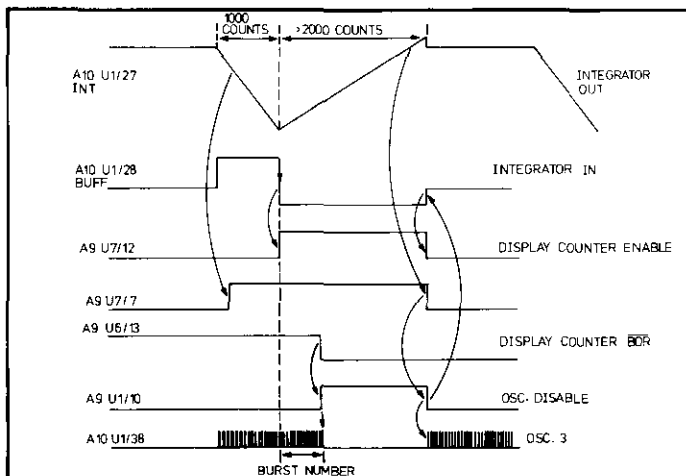

Figure 8–6–3. Burst No. Display Timing Diagram
The One Detector circuit output, U22C pin 8, is changed from its normal high to a low level when the stored burst count reaches one (001). Until this point, U22C pin 8 at high has maintain the BURST ON/OFF signal at high (Burst on). At the receipt of the next clock pulse, which initiales the last burst cycle, the level at U22C 'D' is transferred to the Q output so disabling burst via the VCO BURST ON input. This is illustrated by Figure 8–6–2.
The timing diagram, Figure 8–6–3 should be referred to when reading the following explanation. The principle of operation is that the DVM IC integrator is first supplied with a fixed input (2.2 V) voltage to enable it to ramp up in the normal manner for 1000 cycles time period. The discharge phase is now started and the oscillator disabled via Q1 when the number of cycles output equals the burst count number.
Since the oscillator has been disabled the normal "end of ramp down" detector circuit within the IC cannot be used (the digital control logic is effectively at standstill without a control clock) and an external circuit, U7B etc., is used instead. U7B functions as a Schmitt trigger and causes Q1 to be switched off, so renabling the oscillator, when the DVM IC integrator output (signal "INT") equals the threshold level of about 0.1 V. The burst number is now displayed and the count and display sequence repeated as illustrated by Figure 8–6–3.